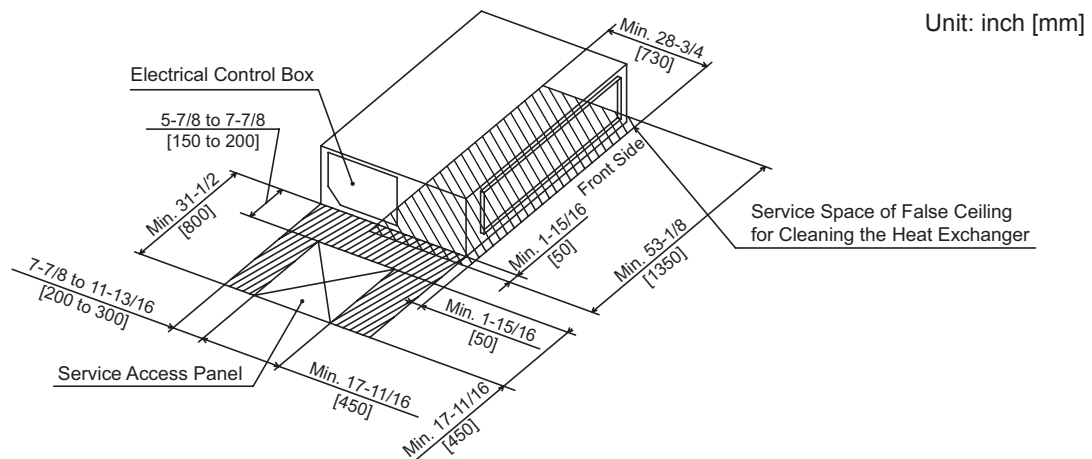

Figure 4.1 Operation and Installation Space
- (1) Install the indoor unit, allowing for proper clearance for operation and maintenance access, as shown in Figure 4.1.